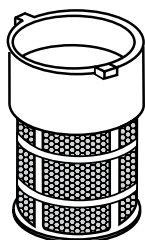

Figure 31. Fuel Strainer
3. Next, remove, inspect and clean the fuel strainer (Figure 31) with solvent.